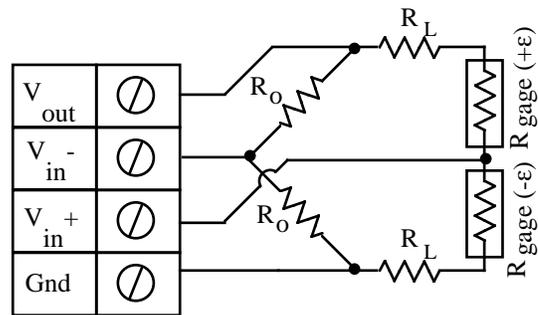

Fig 3.8 - Strain Measurement - Half Bridge Circuit
Measuring bending strain using a 1/2 bridge configuration involves wiring two strain gages as shown in figure 3.8, applying a voltage across the bridge, and measuring the voltage across the two intermediate bridge nodes via a pair of instruNet Vin+ and Vin- input terminals. The excitation voltage for the bridge is supplied by either the instruNet Vout terminal or by an external voltage source. In figure 3.8, Rgage is a strain gage, R0 is either a fixed resistor of known value or a fixed unstrained strain gage of value R0, and RL is the lead wire resistance. instruNet calculates the value of the strain, returning "strain" engineering units, using the equations:
3. Wire your voltage source per figure 3.8, and refer to the steps at the beginning of this chapter for more information on how to set up your sensor.5,10